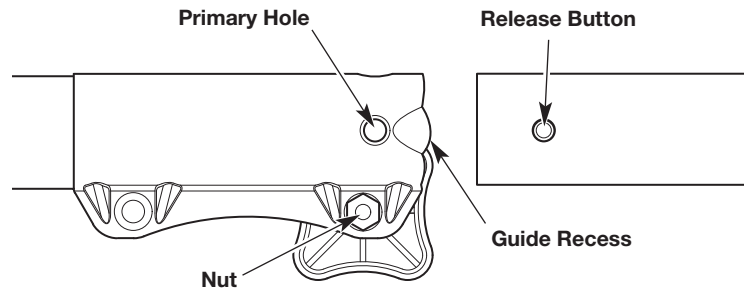

Fig. 5
4. Align the release button with the guide recess (Fig. 5).
5. Push the attachment straight into the coupler until the release button snaps firmly into the primary hole (Fig. 5).
**NOTE:** Do not tighten the nut (Fig. 5).
3. Press and hold the release button (Fig. 5).